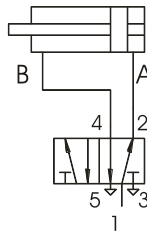

fig 4
Compressed air connection, fig 4 + 5
1. Remove threaded stopper M5 (1) on cylinder (2) and refit on parallel connection.
3. Connect pneumatic hoses as per diagram; fig 4.